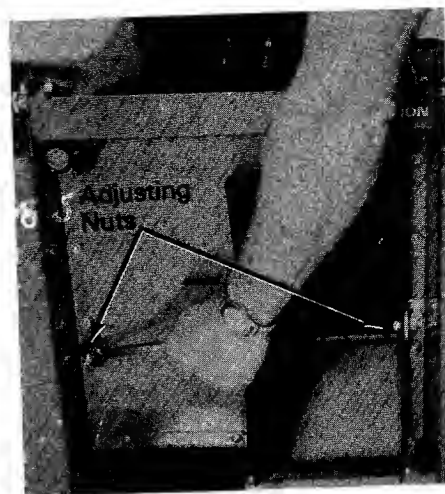

FIGURE 35.
3. Tighten the adjusting nuts as shown in figure 35 until you have the proper tension.